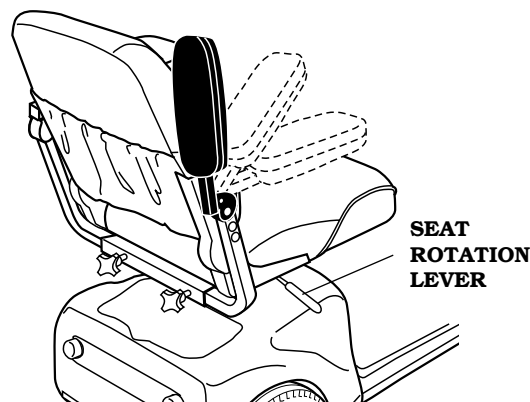

FIGURE 8. FLIP-UP ARMRESTS
1. Pull up on the seat rotation lever and rotate the seat to the desired position. See figure 8.
Pull up on the end of either armrest to flip it up for easy transfer on and off your Golden Companion. See figure 8.
4. Pull up on the seat rotate lever. See figure 8.